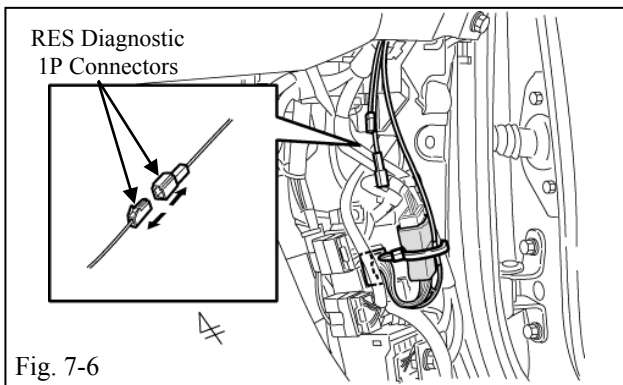

Fig. 7-6
- (l) Disconnect the RES Harness White 1P Connectors from the Passenger’s Side Cowl Area. (Fig. 7-6)